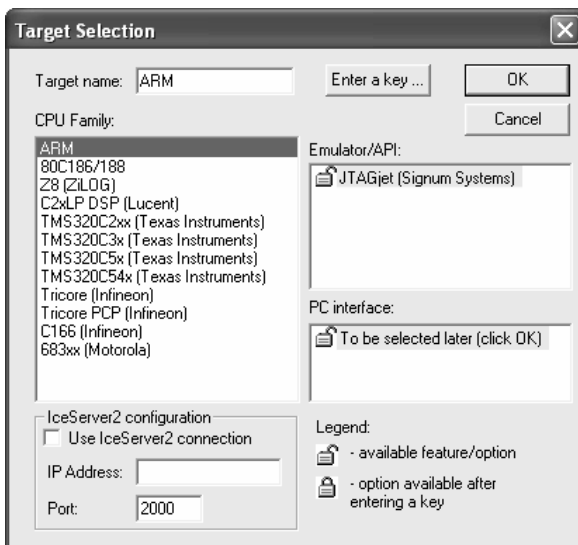

FIGURE 4 Selecting the emulator and its communication interface.
5. In the Target Selection dialog box, choose **ARM** as the CPU Family. In the Emulator/API section, highlight **JTAGjet (Signum Systems)**., as shown in Figure 4.